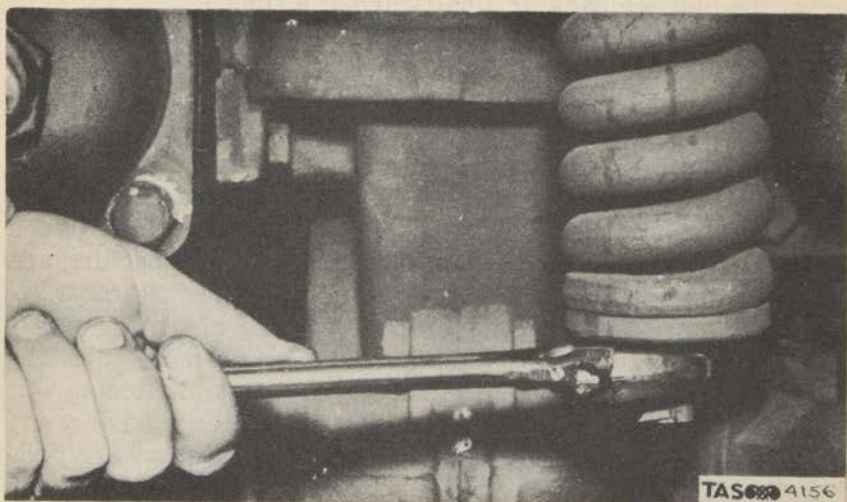

Figure 182. Adjusting Pressure Controller.
c. Automatic pressure controller. Before making any adjustment to the pressure controller make certain that the pump is operating freely and that all cylinders are working at their full capacity, unobstructed by clogged or inactive valves. Increase the pressure by turning the adjusting nut (fig. 182) clockwise. To decrease pressure, turn the adjusting nut counter-clockwise. Adjustments are made with the spray guns shut off. It may be necessary to place a second wrench on the flattened lower end of the piston rod to prevent it from turning while the